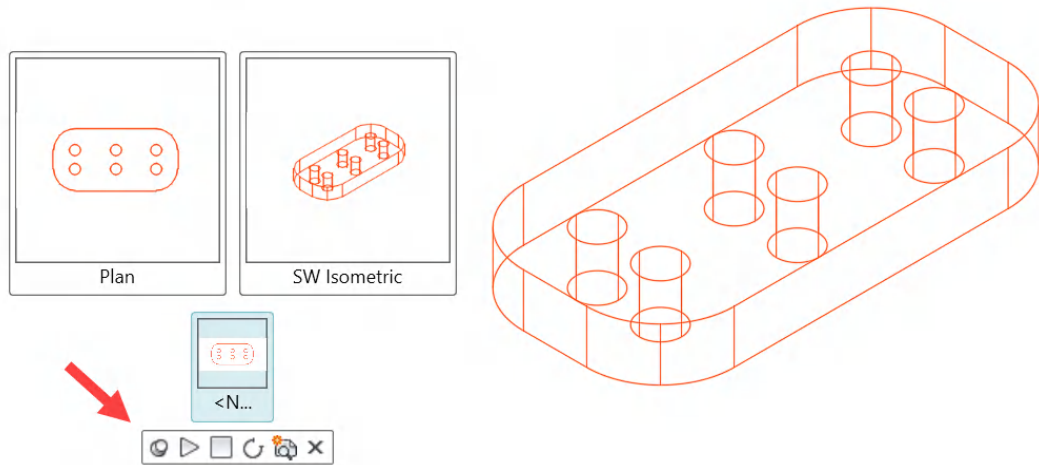

Figure 3.33: The ShowMotion control bar with two saved shots displayed
**ShowMotion** has three main parts: control bar, shot sequence thumbnails, and shot thumbnails. Shots are named locations showing specific parts of the model, with related shots being able to be organized into a shot sequence. *Figure 3.33* shows **ShowMotion** in a 3D modeling environment, with two saved shots and the **ShowMotion** control bar displayed.